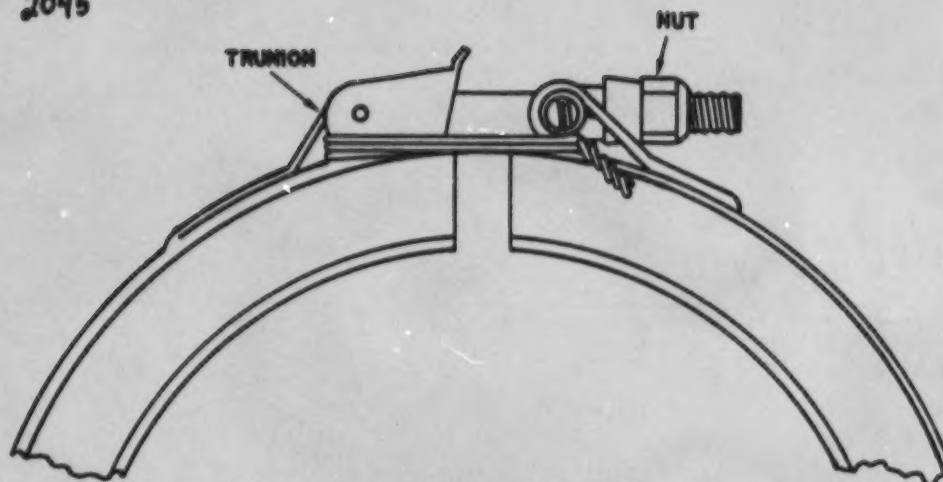

Figure 4. Top View of V-Band Clamp.
2. Refer to figure 4 for correct installation of the wire and safety the V-band clamp by performing the following steps.
- a. Position the trainer so that the clamp looks similar to figure 4.